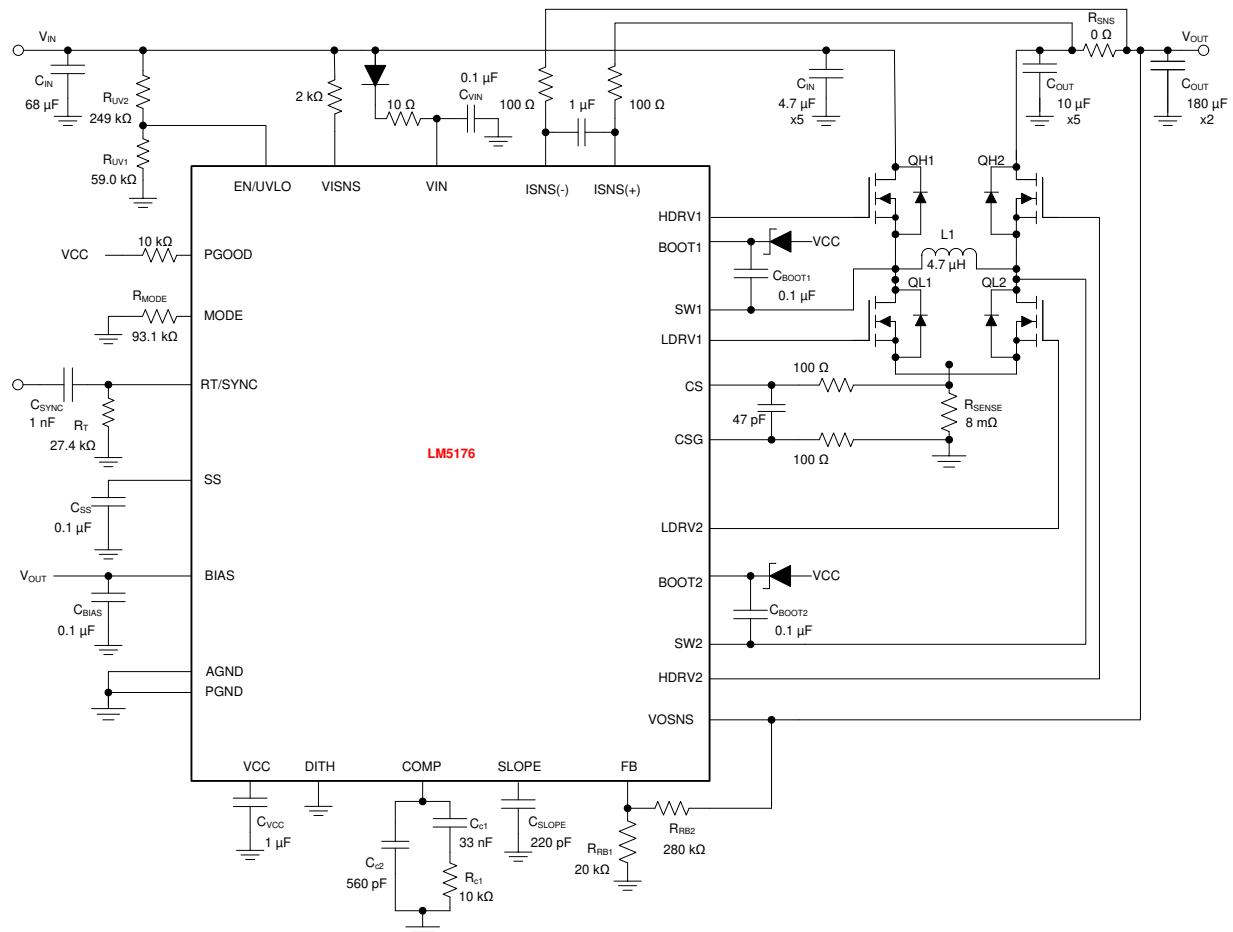

Figure 25. LM5176-Q1 Four-Switch Buck Boost Application Schematic
A filter network as shown in Figure 25 is often used across ISNS(+) and ISNS(-) pins to filter the ripple in the average current sense signal.
For an application where input voltage is higher than 40 V, a 2-k Ω resistor in series with the VISNS pin is required as shown in Figure 25.
The LM5176-Q1 has a gm error amplifier for loop compensation. The gm amplifier output (COMP) range is 0.3 V to 3 V. Connect an R_{c1} - C_{c1} compensation network between COMP and ground for type II (PI) compensation (see Figure 25). Another pole is usually added using C_{c2} to suppress higher frequency noise and switching frequency ripple.
The low-side gate drivers are powered from VCC and the high-side gate drivers HDRV1 and HDRV2 are powered from bootstrap capacitors C_{BOOT1} (between BOOT1 and SW1) and C_{BOOT2} (between BOOT2 and SW2), respectively. The C_{BOOT1} and C_{BOOT2} capacitors are charged through external Schottky diodes connected to the VCC pin as shown in Figure 25.
Typically a combination of ceramic and bulk capacitors is needed to provide low ESR and high ripple current capacity. The complete schematic in Figure 25 shows a good starting point for C_{OUT} for typical applications.
The maximum RMS current occurs at $D = 0.5$, which gives $I_{CIN(RMS)} = I_{OUT} / 2 = 3 \text{ A}$. A combination of ceramic and bulk capacitors should be used to provide short path for high di/dt current and to reduce the output voltage ripple. The complete schematic in Figure 25 is a good starting point for C_{IN} for typical applications.
For some application circuits, it can be required to add a filter network to attenuate noise in the CS and CSG sense lines. See Figure 25 for typical values. The filter resistance should not exceed 100Ω .